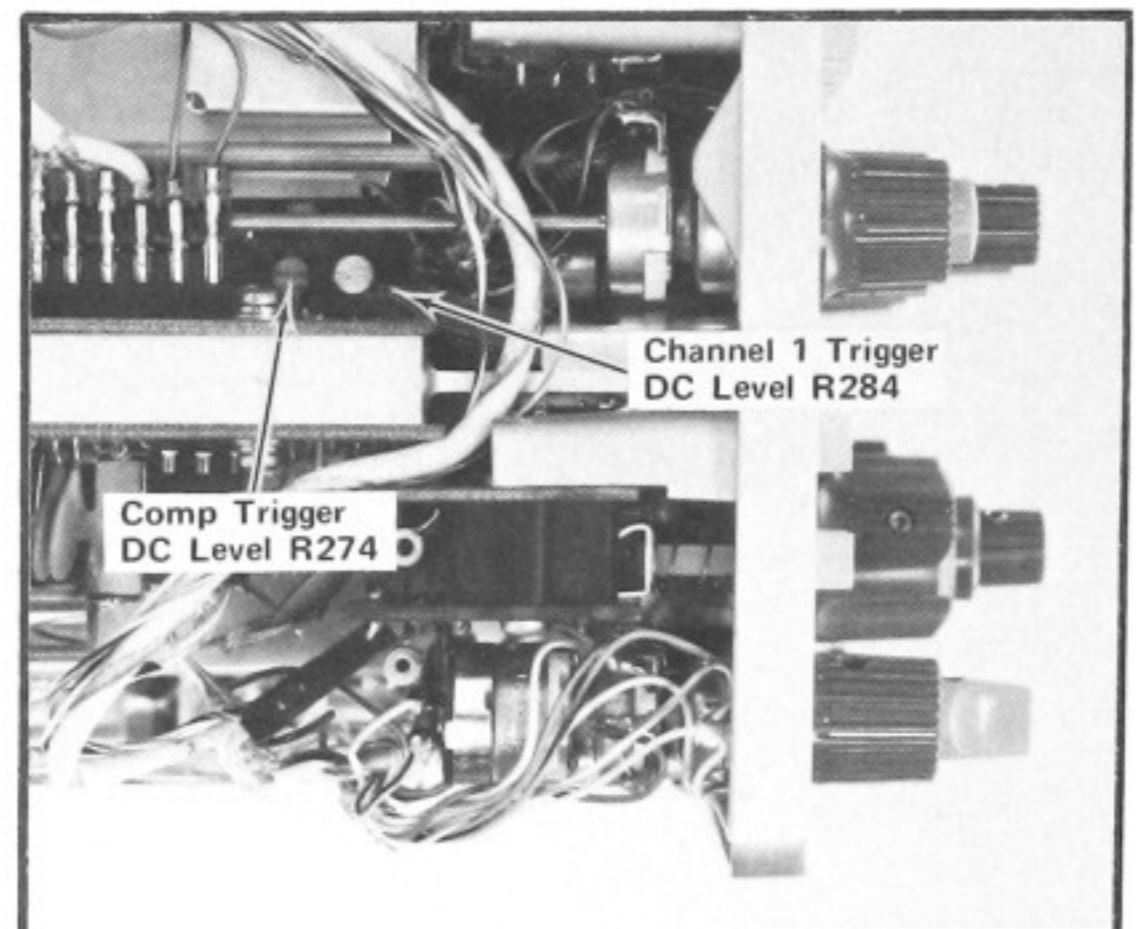

Fig. 5-10. Location of trigger DC level adjustments.
c. ADJUST—Comp Trigger DC Level adjustment R274 (see Fig. 5-10) for a stable display.
- f. ADJUST—CH 1 Trigger DC Level adjustment R284 (see Fig. 5-10) for a stable display.